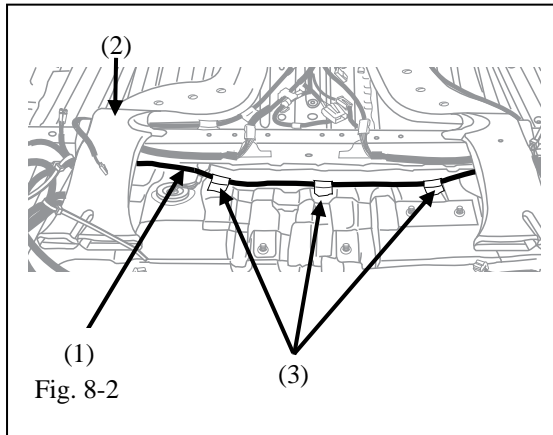

Fig. 8-2
(3) Route the extension harness (1) through the channel toward the driver side of the vehicle and under the driver side ventilation duct (2). Secure extension harness to the floor pan with three pieces of foam tape (3). (Fig. 8-2)